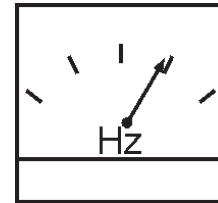

Figure 45. Frequency Meter (Hz)
- The generator's frequency meter (Figure 45) should be displaying the 60 cycle output frequency in **HERTZ**.